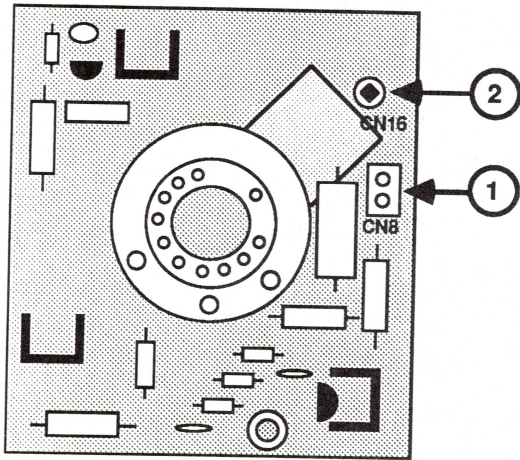

FIGURE 14
3. Turn the CRT socket board so that you can see the component side (Figure 14).
- a) CN8 -- Figure 14, #1 (the connector with two wires that are soldered at their other end to the logic board).
- b) Connect the remaining black single connector to CN16 on the CRT socket board (Figure 14, #2). This is the connector attached to the green CRT ground strap at the side of the monitor.